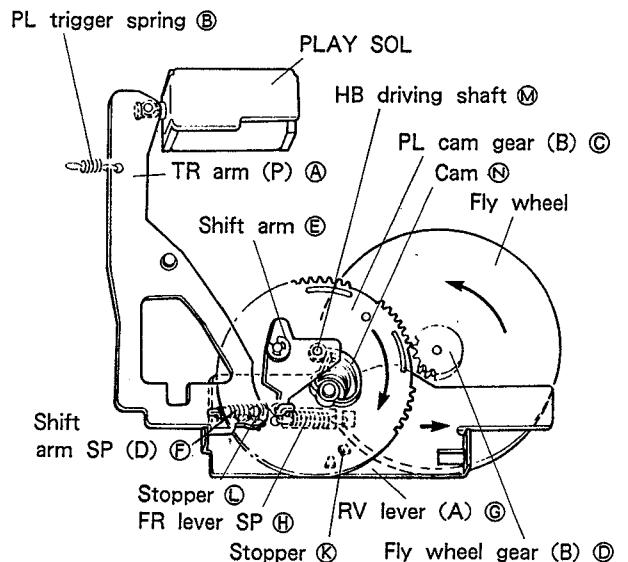

Fig. 8-6
1.3 FWD PLAY → STOP (Refer to Fig. 8-6.)